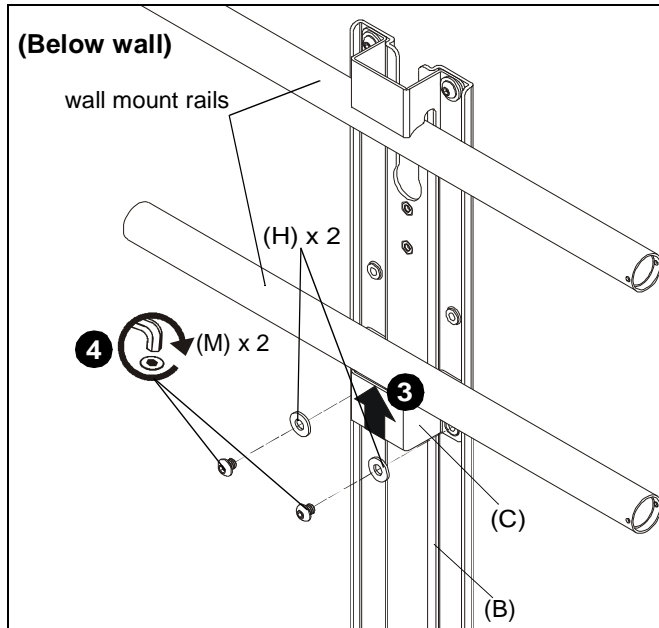

Figure 5
- Slide second shelf bracket (C) underneath lower rail on wall mount, lining up holes on shelf bracket (C) to main bracket (B). (See Figure 5)
- Use two 1/4-20 x 1/4" button head cap screws (M) and two large washers (H) to secure shelf bracket (C) to main bracket (B). (See Figure 5)